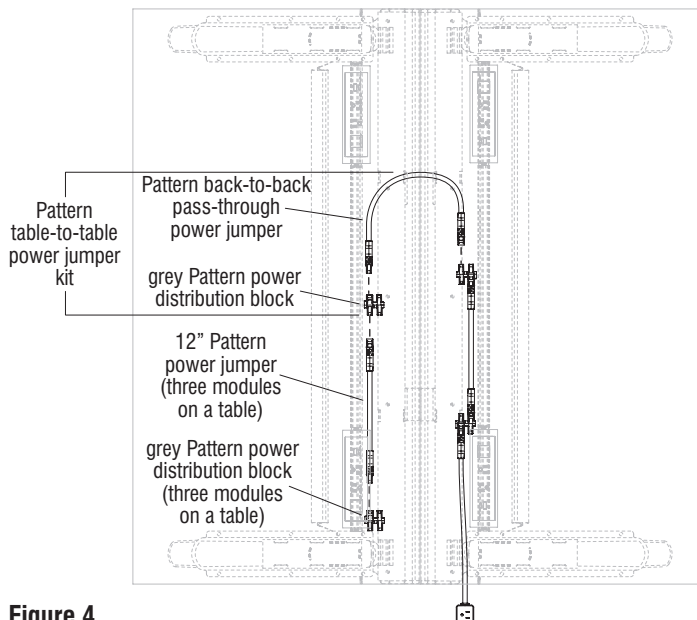

Figure 4
1. As illustrated, route either end of the Pattern back-to-back pass-through power jumper through the power pass-through locations at the back of each rectangular beam. Feed the jumper along the length of the beam and snap into each table's grey Pattern power distribution block (Figure 4).